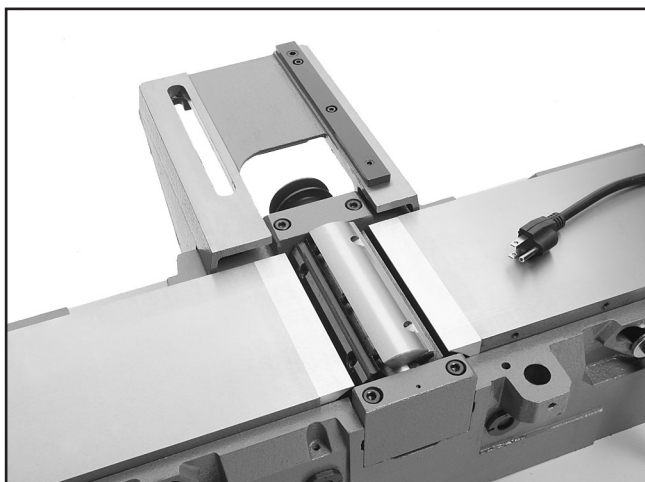

Figure 3. Example of jointer disassembly **Steps 1-5.**
5. Lower both beds to make enough room for the cutterhead to come out, as shown in **Figure 3**.